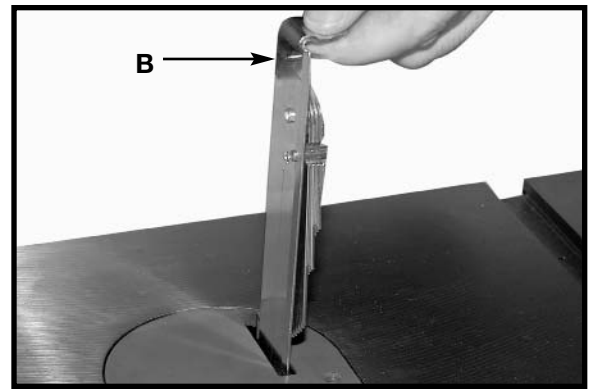

Fig. 5
5. To position the splitter for use, lift up on the slide bar as shown in (B) Fig. 5, and then release.